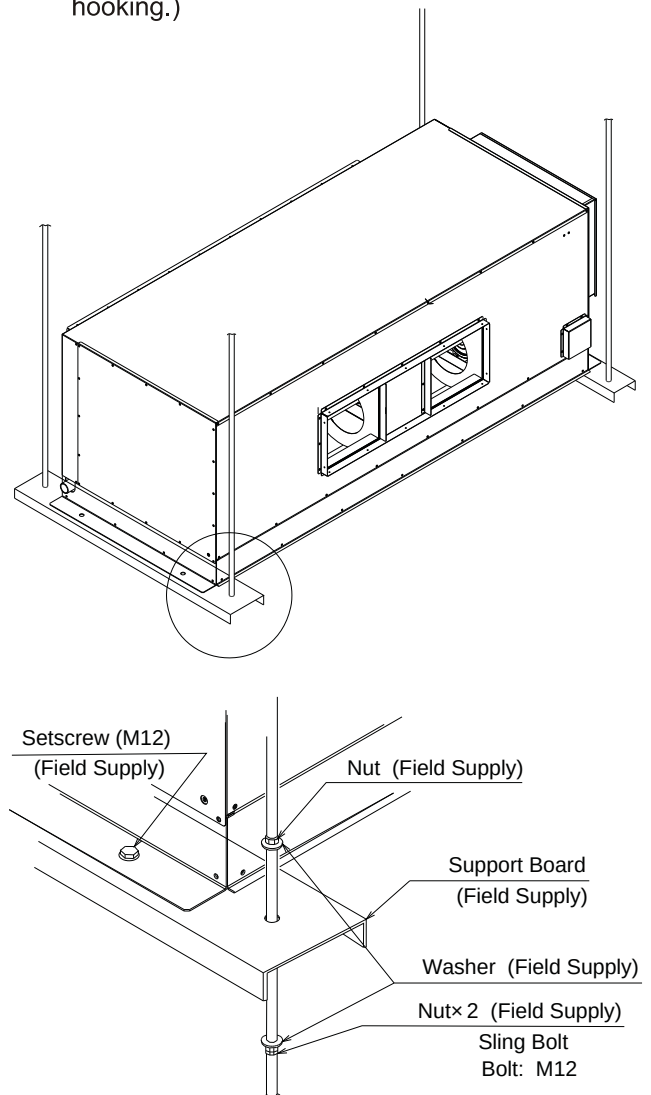

Fig4.4 Hanging Methods
- Install the indoor unit and the support board using bolts (M12) as shown in Fig 4.4.